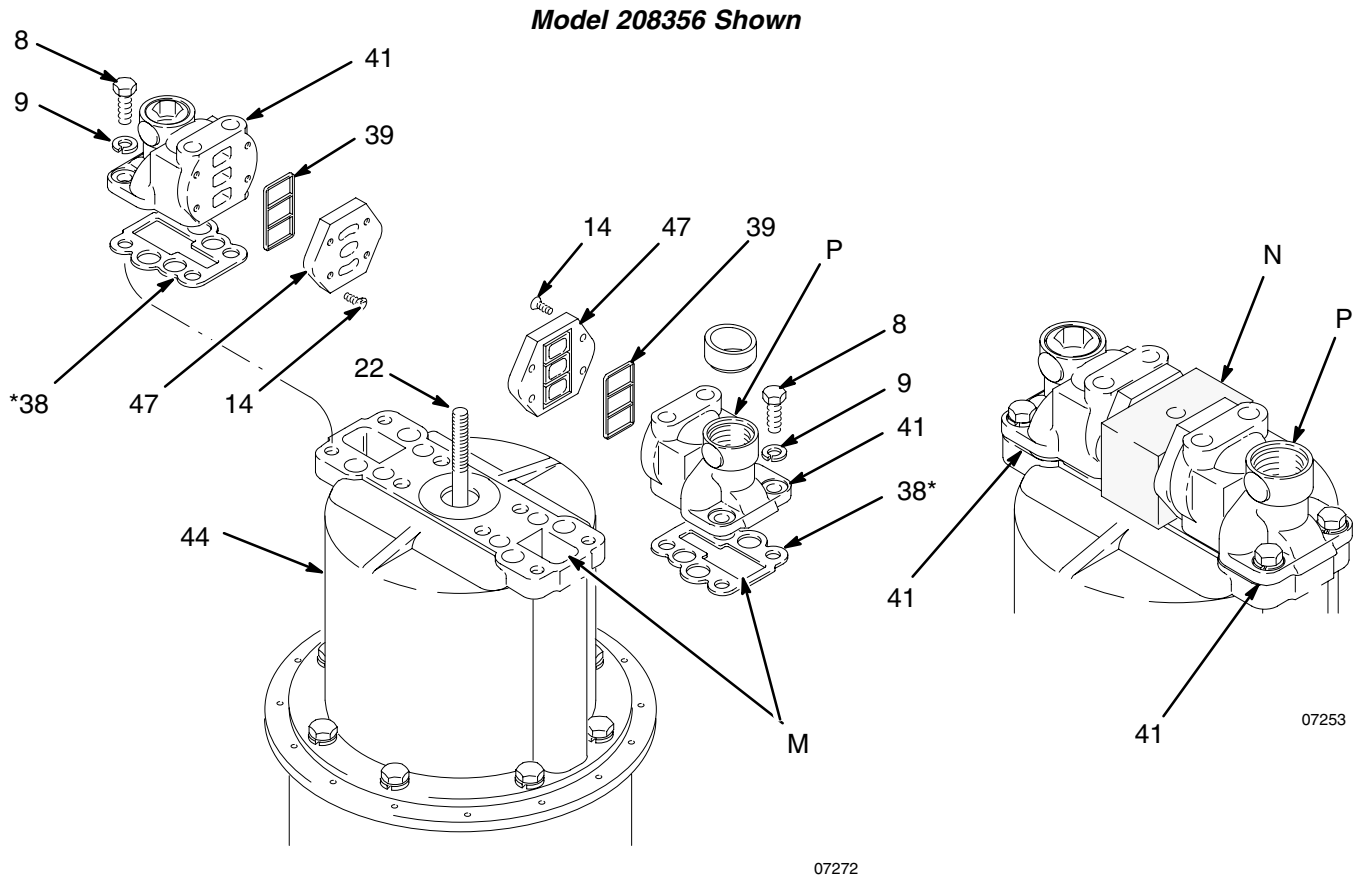

Fig. 8
12. See Fig. 8. Make sure the seals (39) are in place on the valve plates (47). Attach the plates to the manifolds with the screws (14).